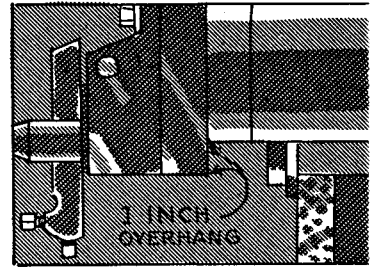

FIG. 492
1. Move the tool slide down until it projects about 1" beyond the bottom edge of the swivel block (Fig. 492).